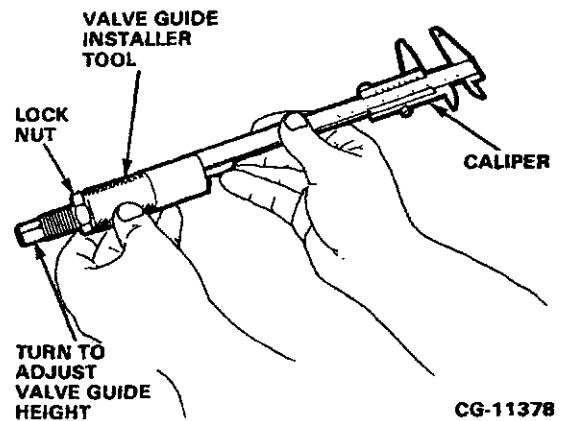

Figure 4.36. Adjust Valve Guide Installer Tool to Specified Height
- a. Adjust the valve guide installer tool, ZTSE-1943, using a caliper as shown in Figure 4.36.